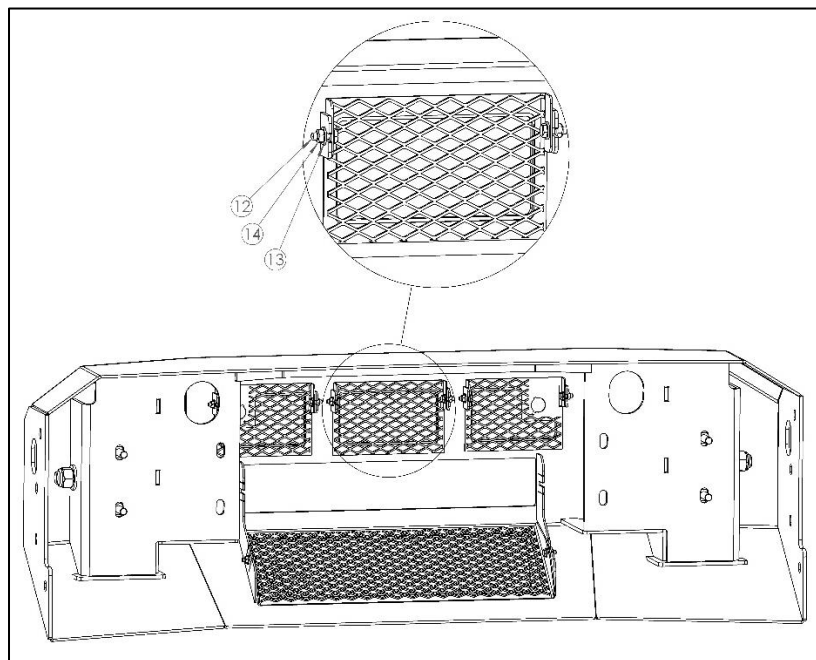

Figure 7: Mesh assembly
- Using the provided hardware (12, 13 & 14), bolt the three upper screens (5, 6, & 7) and lower screen (8) into the center section as shown in Figure 7.